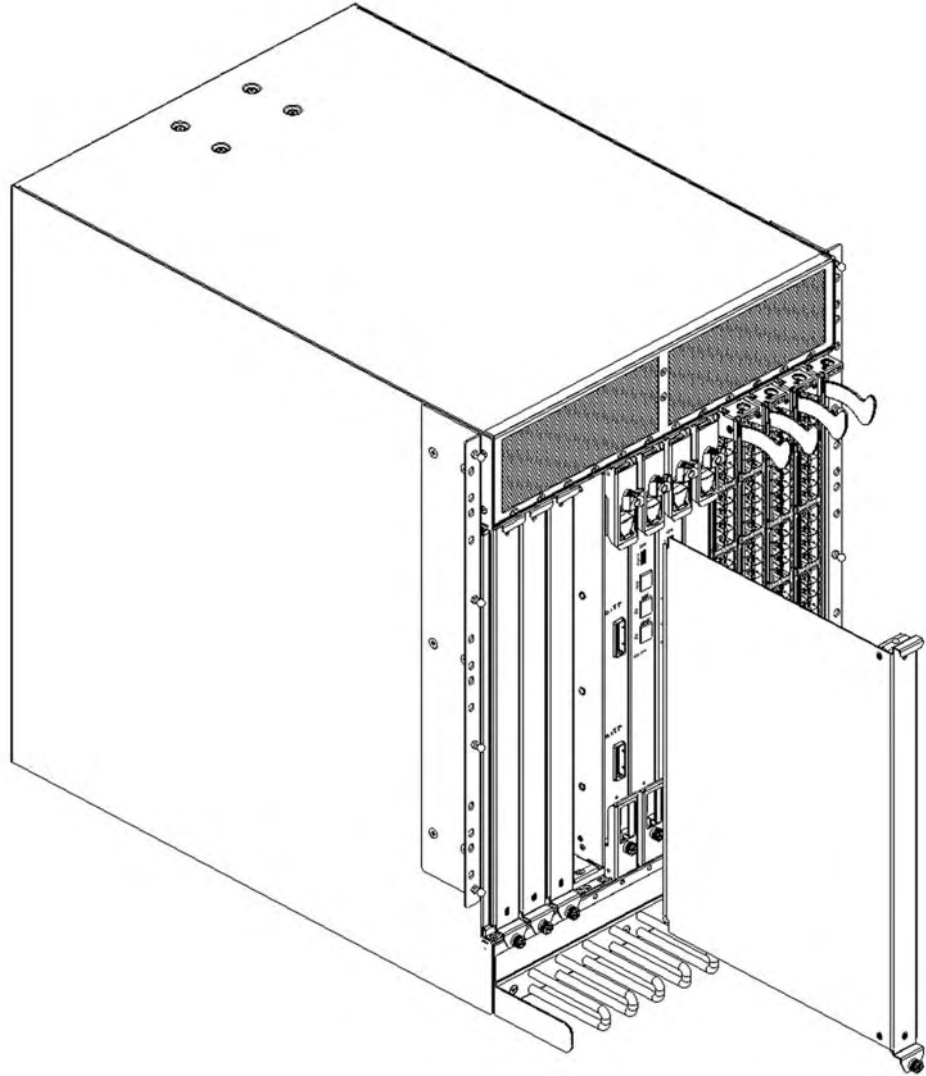

Figure 27. Port blade removal and installation (16-port blade shown as example)
3. Pull the filler panel out of the chassis. (See Figure 27 on page 61.)